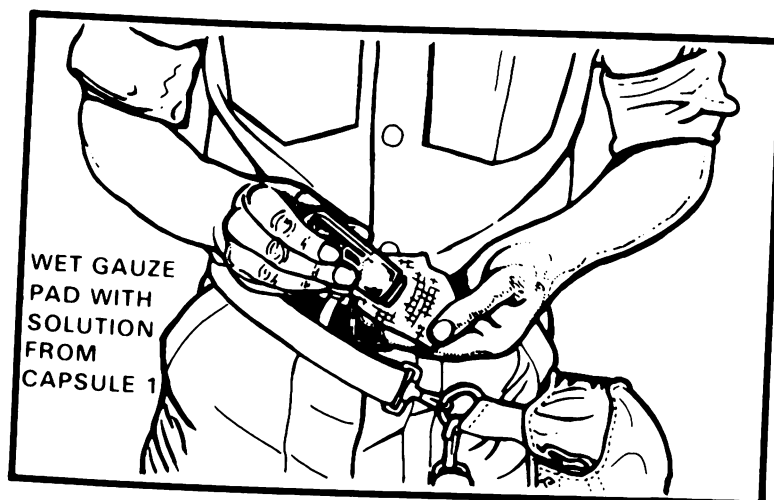
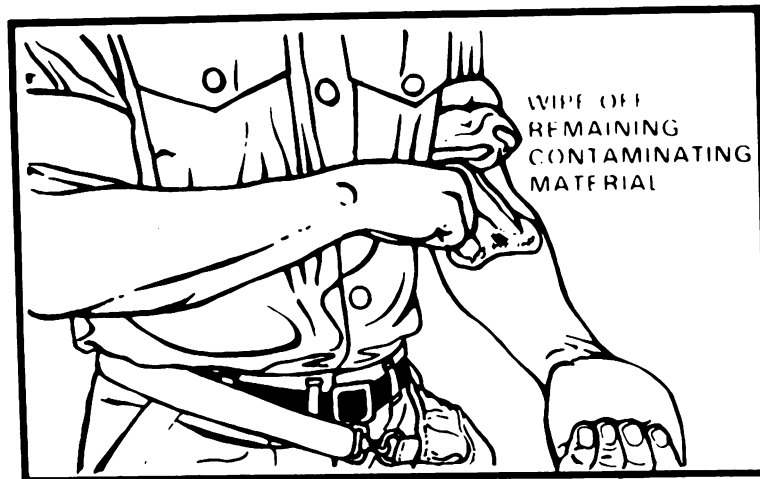

Figure 3
Figure 4
- e. Wet a gauze pad (fig 3) with the solution from the capsule and wipe (fig 4) off the remaining sticky material.